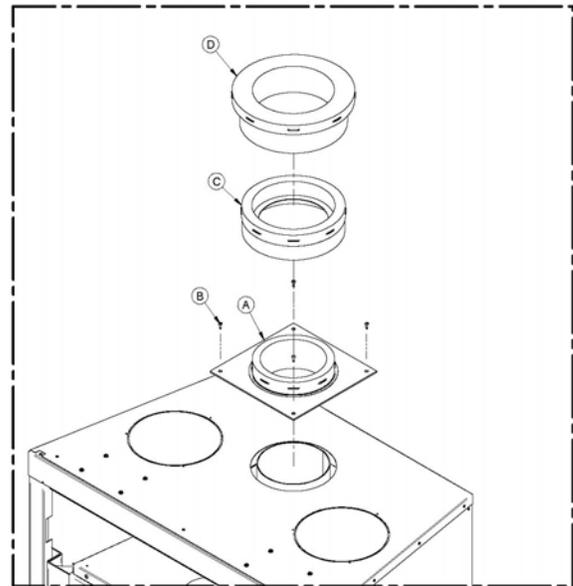

Figure 42
*This fireplace may be installed with a 7-inch chimney of the same type as the ones listed in the above table, provided that a 6" to 7" insulated increasser (see figure 42, parts C and D), supplied by the chimney manufacturer, is installed for the transition between the 6-inch anchor plate(see figure 42 part A) wich can be secured with screws (see figure 42 part B) and the 7-inch flue. For Security Chimneys, the part number is 6AW7.